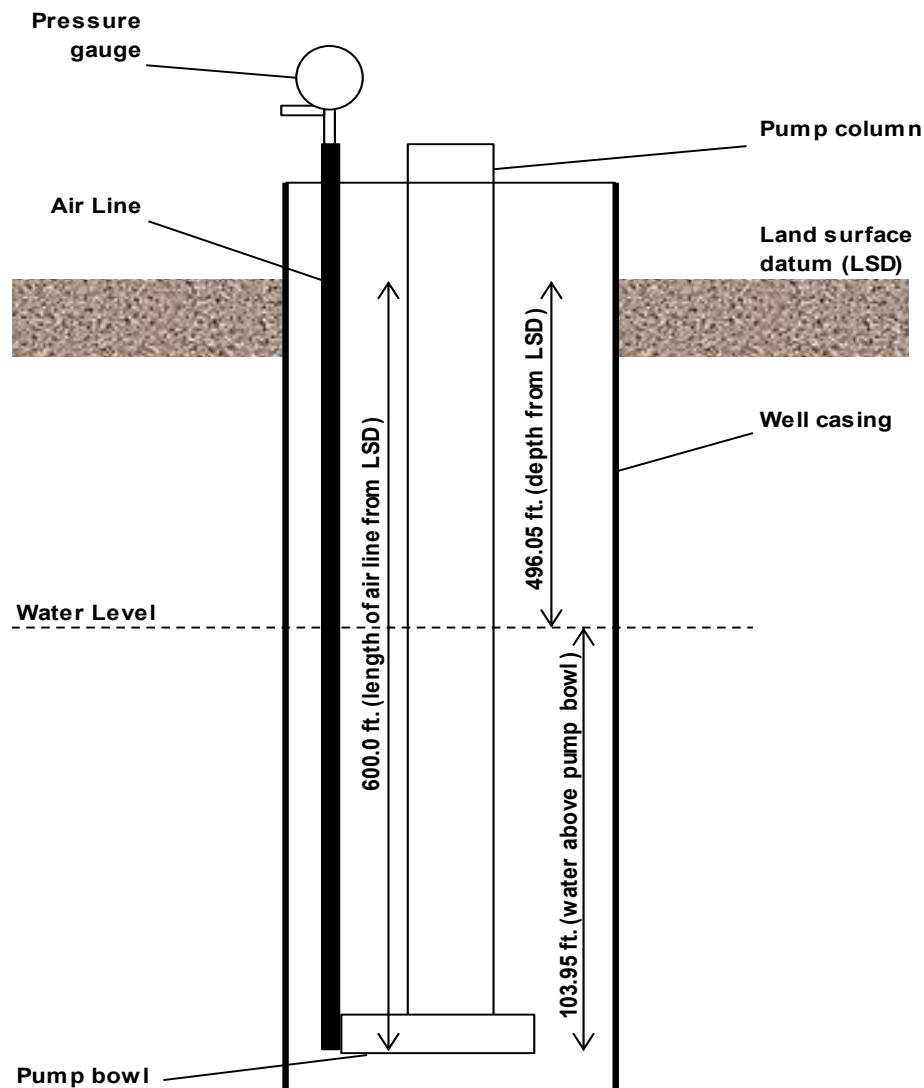

Figure 3. Air Line method of measurement for groundwater levels (not to scale).
- 10) For example (see Figure 3), if the pressure reading is 45 psi and the length of the air line from land surface is 600 feet, the calculation is $45 \times 2.31 = 103.95$ (feet of water above end of air line) then $600 - 103.95 = 496.05$, then round the result to get 496 feet as depth to water from land surface.